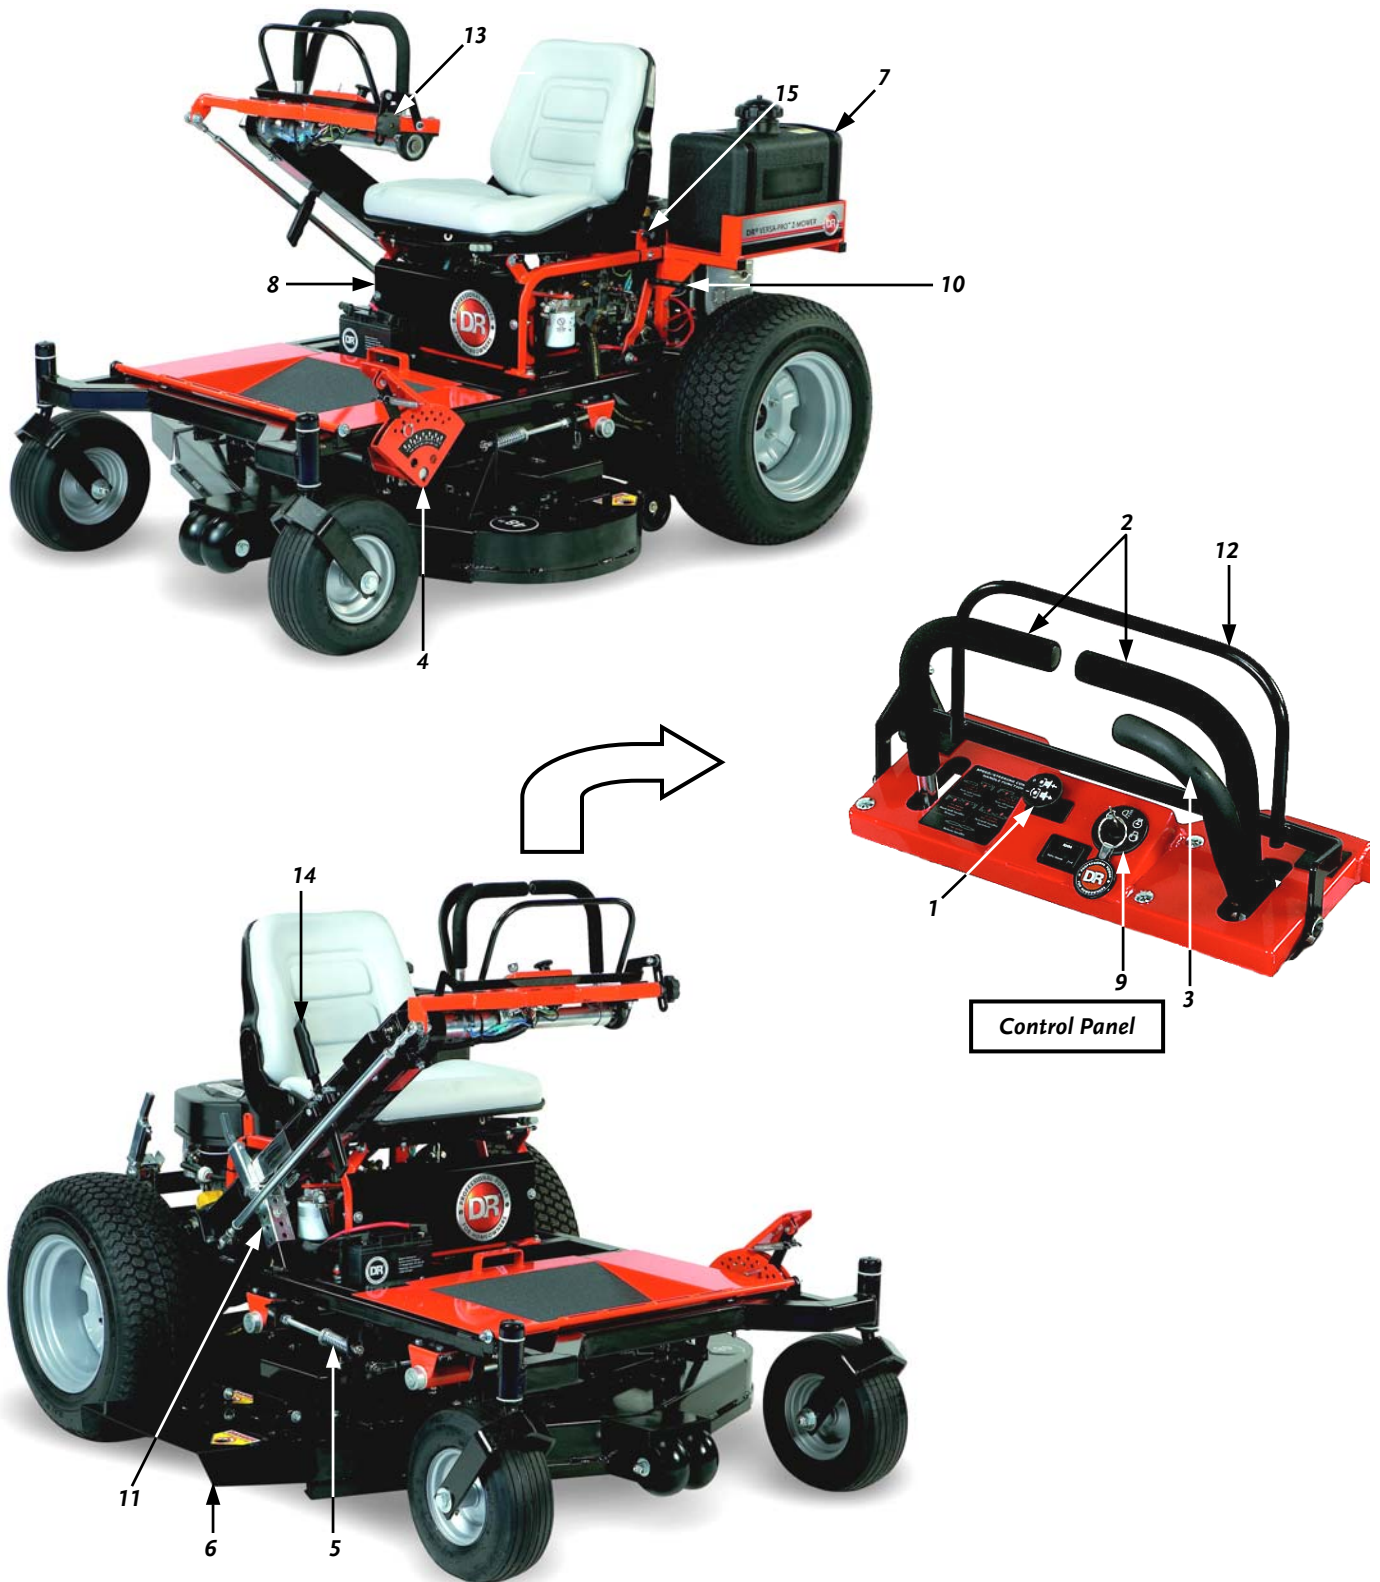

Figure 1
This chapter outlines a few simple steps you will need to follow to set up your new machine before you use it. It may be helpful to familiarize yourself with the controls and features on your mower by reviewing *Figure 1* in the next section before beginning the steps outlined in this chapter. **If you have any questions at all, please feel free to contact our Customer Service Representatives at our Toll-Free number: 1-800-DR-OWNER (376-9637).**
**NOTE:** The model shown in **Figure 1** may look slightly different from your machine.
This chapter covers the procedures for starting and stopping your new DR VERSA-PRO Z-MOWER and discusses basic operation features. You may find it helpful to review the Controls and Features (**Figure 1**) on page 12 before reading this chapter.
1. Stand in the Operating Position behind the Control Handles or sit in the seat, start your machine, hold the Operator Presence Lever against the Right Handle (**Figure 1** on page 12) and engage the Blades.
2. Remain behind the Control Handles or seated and release the Operator Presence Lever from against the Right Handle (**Figure 1** on page 12).
3. Move the Throttle Handle (**Figure 1**) forward to the START position.
4. Pull the Choke Control (**Figure 1**) all the way out to the Choke position.
5. Turn the Key (**Figure 1**) to START to engage the Starter. When the Engine starts, release the Key. The Key Switch is spring loaded, and will return to the RUN position automatically.